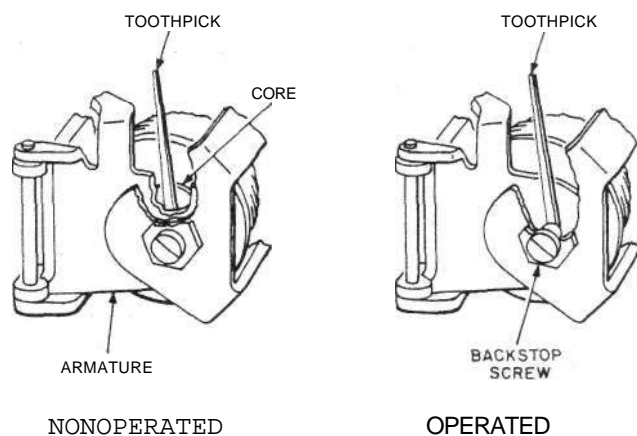

Fig. 26—Blocking 251- and 252-Type Relays
3.22 251- and 252-Type Relays: Fig. 26—Block relays nonoperated by inserting a toothpick between the armature and the core. Block relays operated by inserting a toothpick between the armature and the backstop screw.